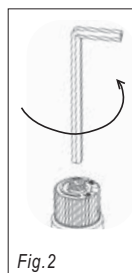

Fig.2
- 9) Insert a 5/32" or 4mm Allen wrench into the hexagonal key-way of the screw (Fig. 2), rotate it counter-clockwise until it is free and extract it.